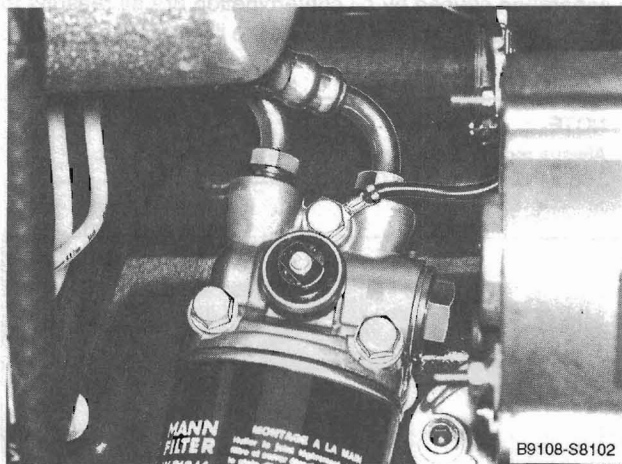

Fig. 3. Engine oil filter on left-hand (driver's) side of engine.
- Position the drain pan directly under the oil filter. Using an oil filter wrench, loosen it in a counterclockwise direction, then remove it by hand. See Fig. 3.